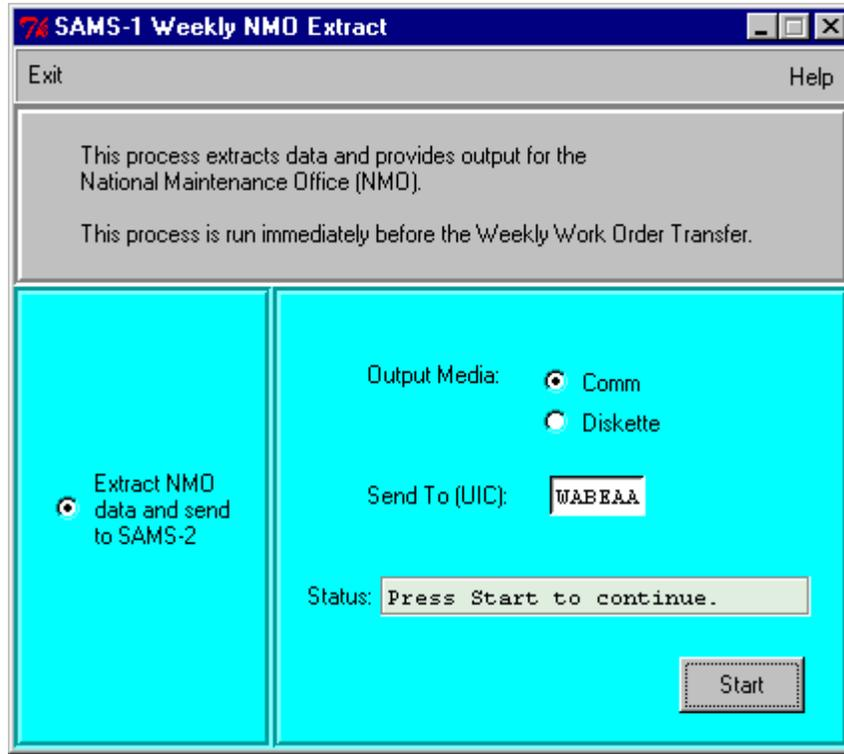

FIGURE 1, SAMS-1 Weekly NMO Extract
2. The SAMS-1 system will automatically select the SAMS-2 UIC for which a Weekly WO Transfer, AHN4BD record, exists in the SAMS-1 Diskette/Com master file. In FIGURE 1 on page 1, the SAMS-2 UIC is WABEAA. It is to the right of the Send to (UIC) literal, which is above the status bar.